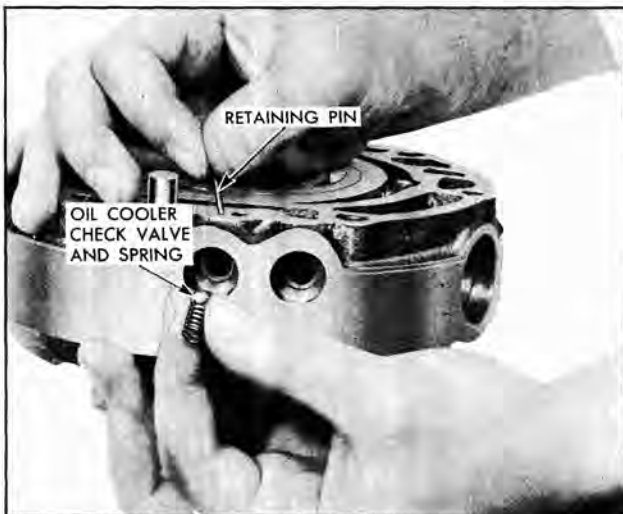

Fig. 102 Removing Oil Cooler Check Valve
4. Remove cooler check valve pin with needle nose pliers (while holding spring), and remove spring and ball (Fig. 102).